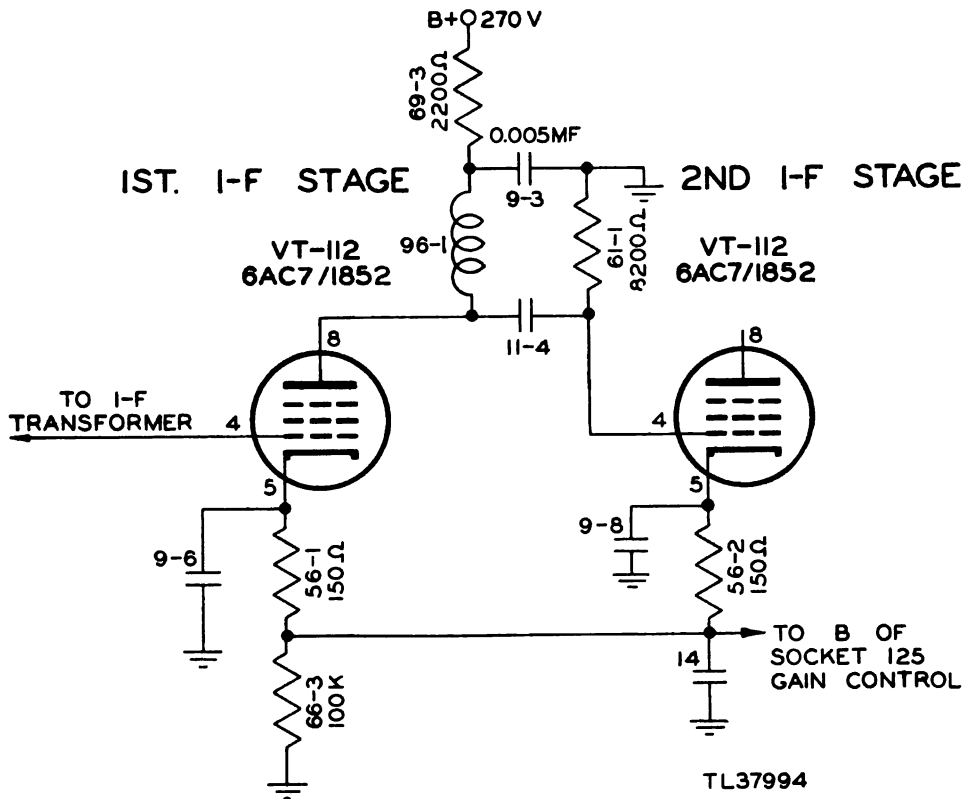

Figure 30. I-f transformer, partial schematic.
b. BROAD BAND PASS. The partial schematic of figure 30 shows the tuned inductance 96-1, the two capacitors 9-3 and 11-4, and the resistor 61-1 which are between the first and second i-f stages. Note that the grid resistor 61-1 is effectively in parallel with the tuned circuit since the coupling capacitor and bypass capacitor have a negligible reactance at the intermediate frequency and therefore act as low-resistance paths for the i-f signal. All these grid resistors are low in value and tend to damp or broaden the response of the tuned circuit and make it tune less sharply. This is desirable in order to achieve a broad band-pass response.